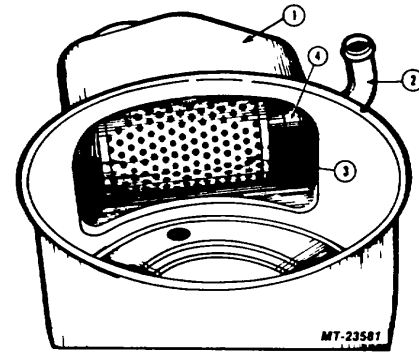

Fig. 6 Filter Location
6. To remove filter element, insert a screw-driver behind the spring and pry the spring out. The filter element can then be removed. There is also a loose filter element guide that fits over the end of the return tube on the inside of the reservoir, Figures 6 and 7. Clean interior of reservoir and components with clean solvent and air dry.